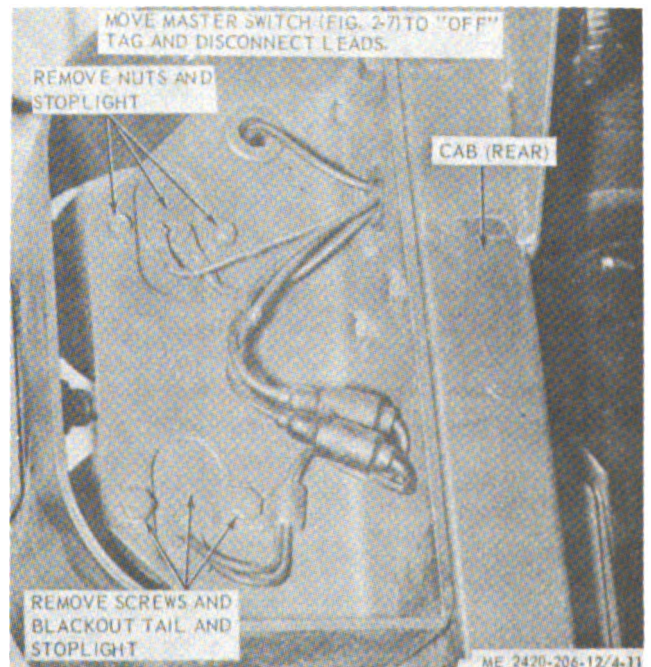

Figure 4-11. Tail and stoplight, blackout tail and stoplight assembly, removal and installation.
a. Removal. Refer to figure 4-11 and remove tail and stoplight, blackout tail and stoplight assembly (para 3-15c and 3-15d).
(1) Clean parts and dry thoroughly.
(2) Inspect for cracks, breaks and other damage. Replace all defective lights as necessary.
c. Installation. Refer to figure 4-11 and install tail and stoplight, blackout tail and stoplight assembly.